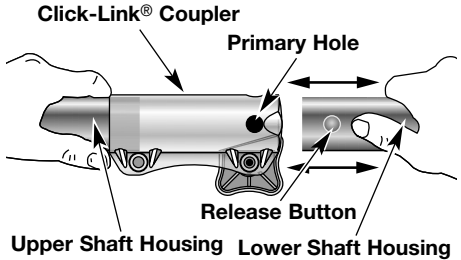

Fig. 22
3. While firmly holding the upper shaft housing, pull the cutting attachment or add-on straight out of the Click-Link® coupler (Fig. 22).
2. While firmly holding the add-on, push it straight into the Click-Link® coupler (Fig. 22).